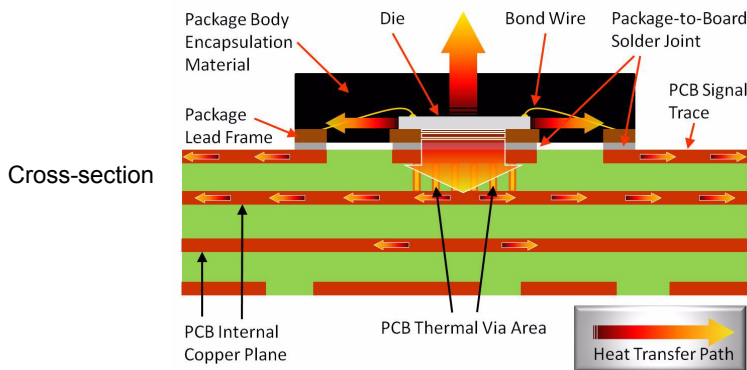

Figure 17. DFN/QFN-EP Package Showing Heat Transfers
The majority of DFN/QFN packages are based on thermally/electrically enhanced lead-frame technology; the bottom of the package provides the primary heat removal path, as well as excellent electrical grounding to the PCB through an exposed pad (EP). In a DFN/QFN-EP package, the die attach paddle is at the same level as the perimeter pads within the package, such that the pad is exposed during the mold process, as shown in Figure 17. To optimize thermal performance, the PCB design should include a thermal plane.